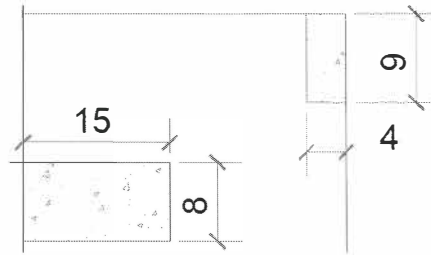

Figure 12–30
5. Add the loading dock pad and dumpster pad, as shown in Figure 12–30. Hatch these areas using the **AR-Conc** pattern and a scale of **0.03**.